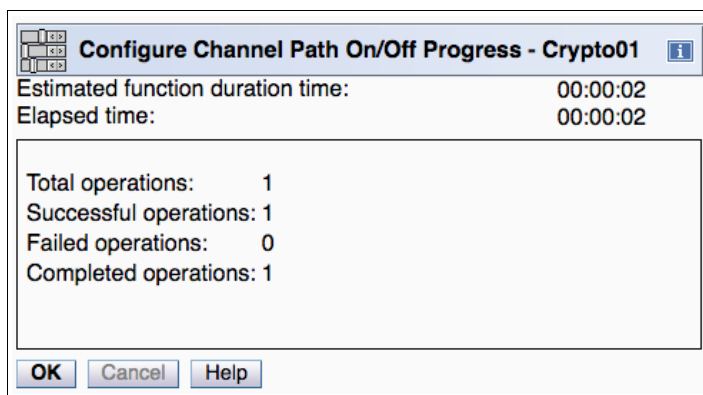

Figure 10-25 Configure On/Off (Standby to Online) completed
- Confirm that your request is completed (see Figure 10-25). Click **OK**.